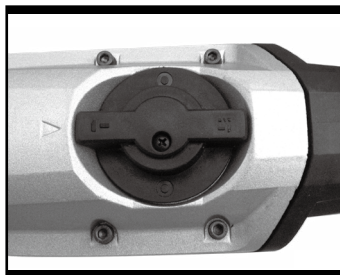

Fig. 6-1
7. CHISEL FUNCTION (See Fig. 6-1, 6-2)